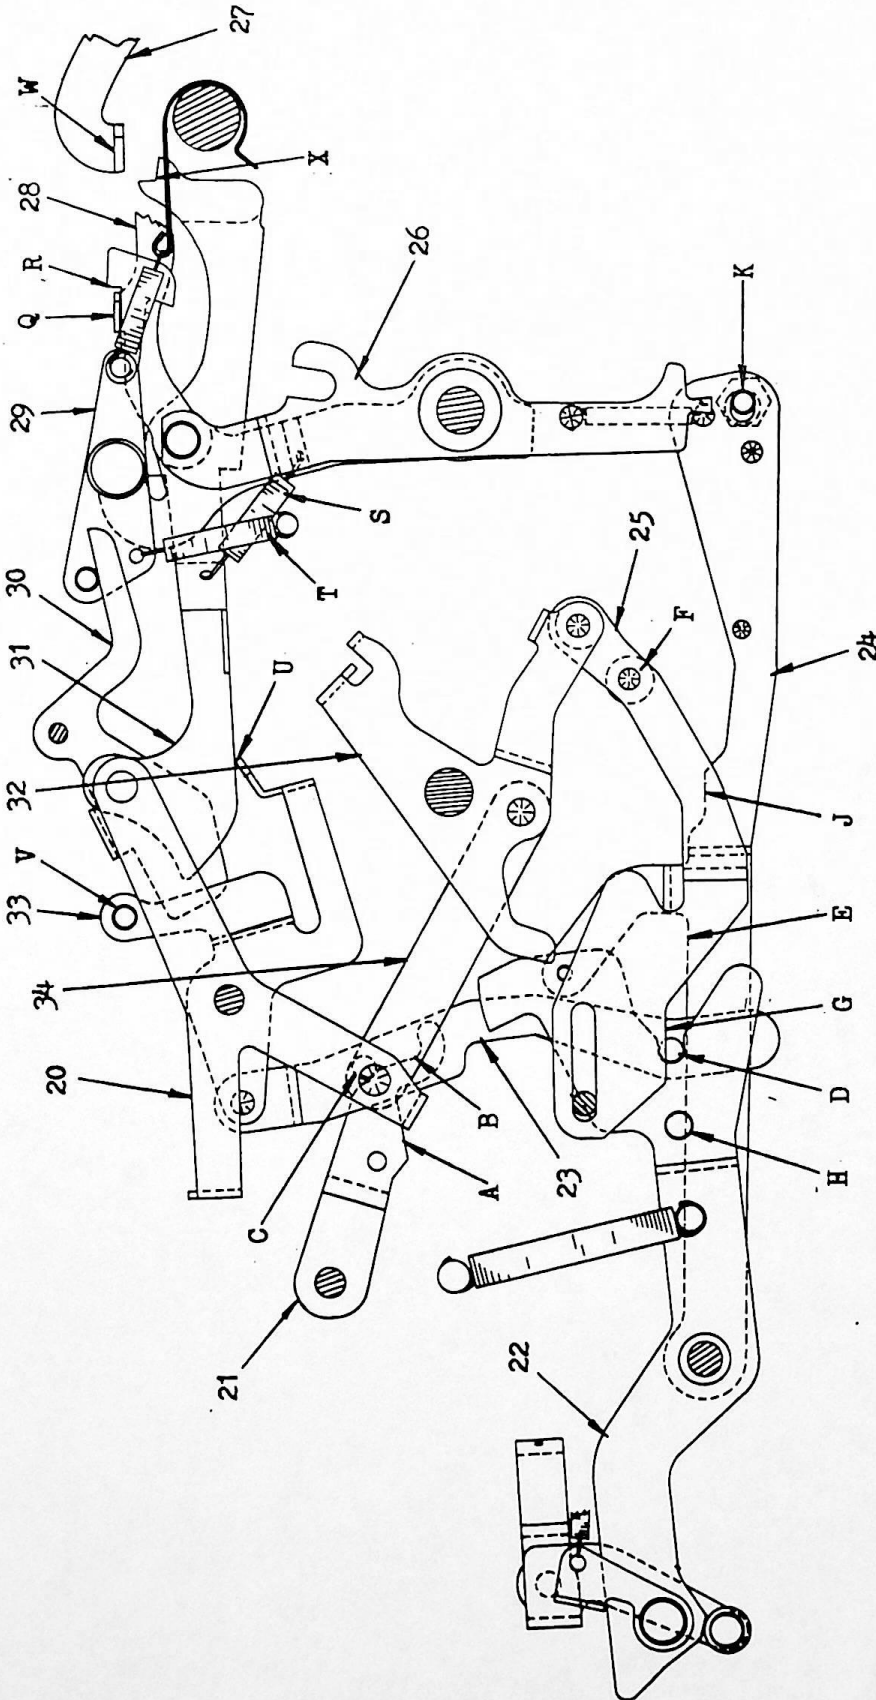

FIG. 2
(Fig. 20). When Lever (44) is not blocked, rotation of the Setting Line rotates Cam (48) against roller (H) on Arm (46) which rocks Lever (44) clockwise through Yield Spring (45). This positions surface (I) on Lever (44) in position to collapse Lever (49). As Arm (43) is rotated counter clockwise by roller (M) riding Cam (47) it carries Lever (49) upward and leftward. Ear (J) on Lever (49) contacts surface (I) on Lever (44). Tip (K) on Lever (49) moves rapidly downward in time to pass under hook (L) on Dog (50), thus preventing opening of the Main Clutch. By disabling the opening of the Main Clutch the Setting Line makes one complete rotation which allows ear (W) on Lever (27) (Fig. 2) to engage surface (X) on Lever (31) and open the Shift Clutch. One complete rotation of the Setting Clutch without interruption for a Main
(Fig. 2). The shift mechanism must be disconnected from the Decimal Key control before the Lower Carriage starts to rise. This is necessary in order to enable surface (X) on Lever (31) to position in front of ear (W) on Lever (27) before the Carriage rises. The direction of shift and amount of Carriage travel is then controlled by the Line-Up Shift mechanism.